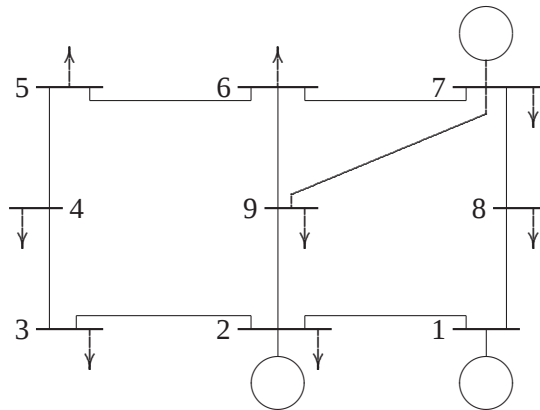

FIGURE 64
7.12. The 9-bus power system network of an Electric Utility Company is shown in Figure 64. The load data is tabulated below. Voltage magnitude, generation schedule and the reactive power limits for the regulated buses are also tabulated below. Bus 1, whose voltage is specified as $V_1 = 1.03\angle 0^\circ$, is taken as the slack bus.